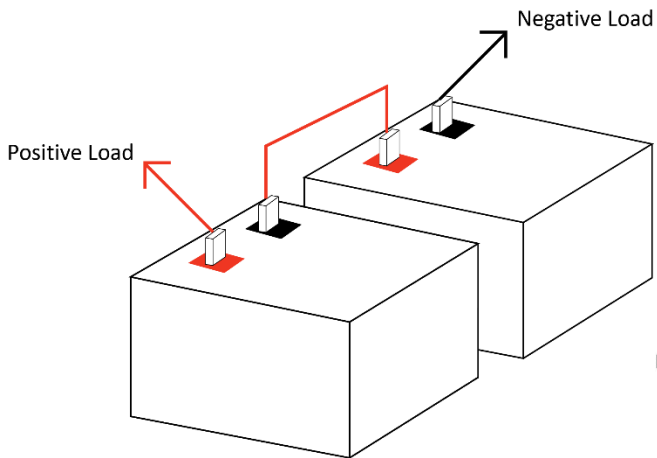
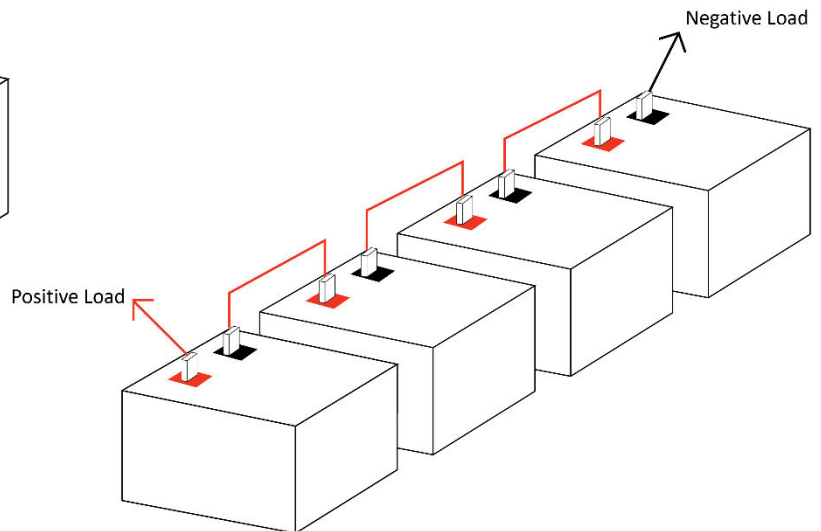

Figure 4.1: Two 8D Batteries Connected in Series to create a 24V 270Ah Battery Bank
Figure 4.2: Four 8D Batteries Connected in Series to create a 48V 270Ah Battery Bank
7. Repeat steps 3-6 for additional batteries, but **DO NOT** exceed 48V. An example of a correct series connection can be found below in Fig. 4.1 and Fig. 4.2.